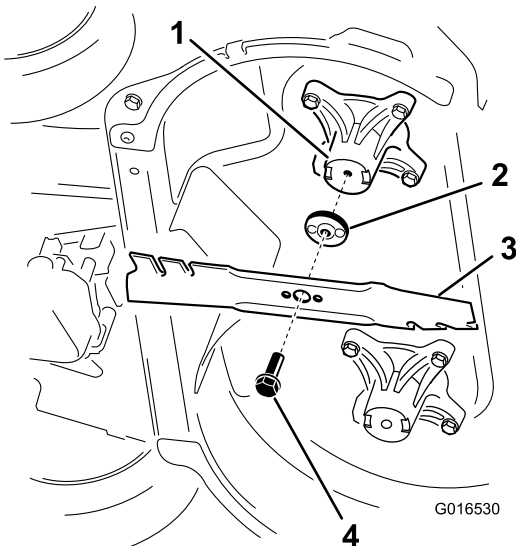

Figure 3
2. Remove each blade as shown in Figure 3.
1. Install the first blade so that it is horizontal, along with all mounting hardware as shown in Figure 3.